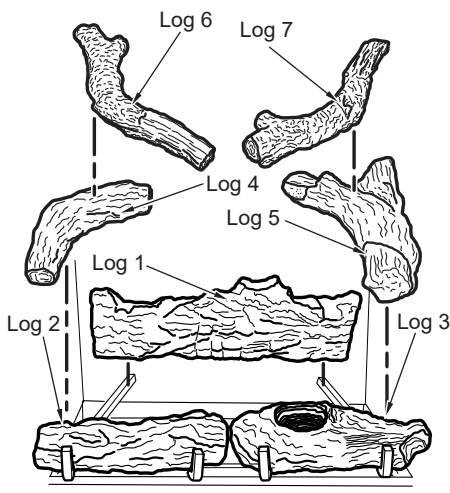

Figure 24
5. Place log #6 into the groves on the left sides of log #2 and #4 (see Figure 24).
6. Place log #7 into the groves on the right sides of log #3 and #5 (see Figure 24).